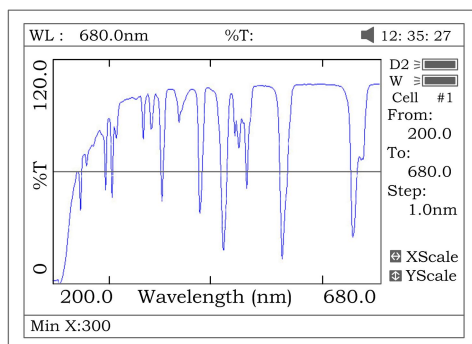
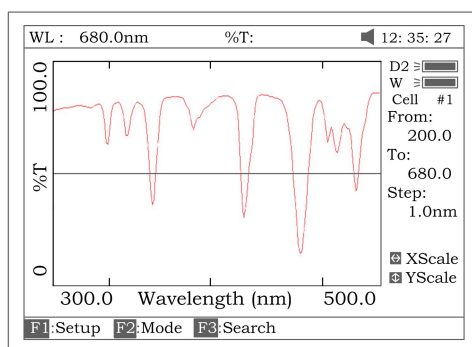

Fig47
Fig 48
5. If you want to change the scale, press **<** or **>** to change “x” scale (Fig 47), input upper limit and lower limit by pressing the numeric keypad . To change “y” scale press **^** or **v** . After these inputs the instrument will redraw the curve (Fig 48).
Press **SAVE** to save the curve. Note: Load/Save requires the first scan display page (Fig. 48). Press **ESC** if in Search to return to the required page